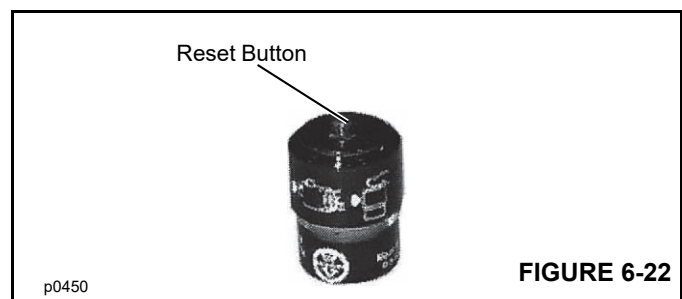

FIGURE 6-22
5. Reset the air cleaner restriction indicator by pushing in the reset button (Figure 6-22).